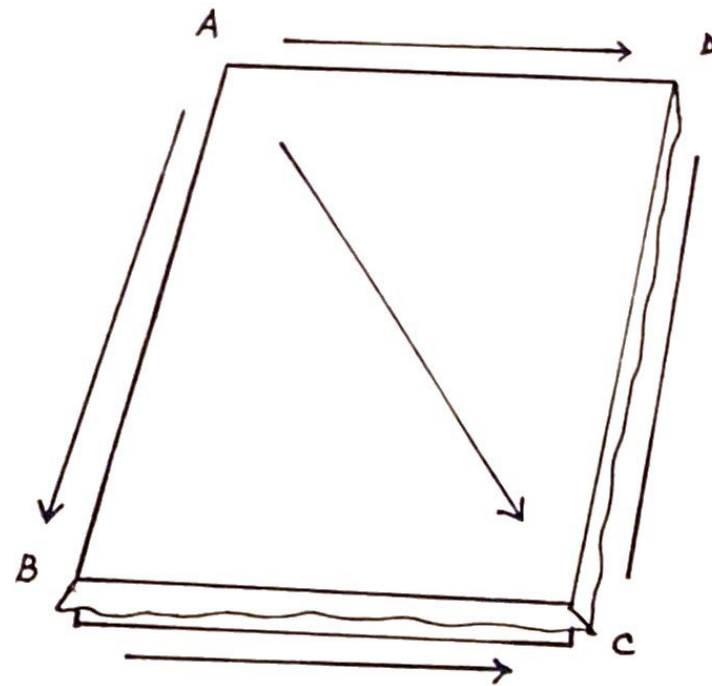

Fig. 5
- 6) Continue nailing starting from point D to C, then B to C. (see fig.5)